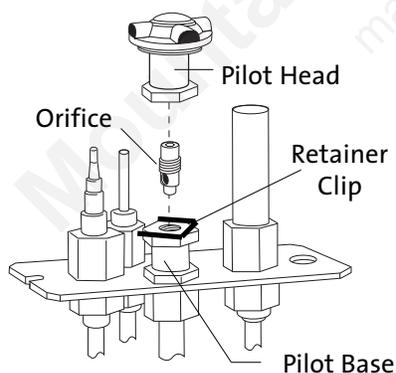

Figure 26. Pilot orifice removal and replacement.
11. **CHANGE THE PILOT ORIFICE:** From within the firebox, remove the Pilot Head by pulling it straight up from the pilot base. See fig. 26. Using the 4 mm hex key included with the kit, unscrew the pilot orifice (counter-clockwise). Replace with the appropriate orifice: